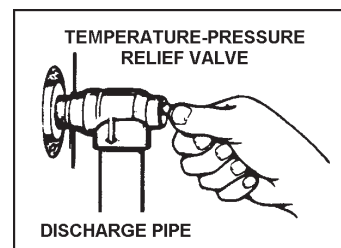

FIGURE 37.
When checking the temperature-pressure relief valve operation, make sure that (1) no one is in front of or around the outlet of the temperature-pressure relief valve discharge line, and (2) that the water discharge will not cause any property damage, as the water may be extremely hot, see Figure 37.